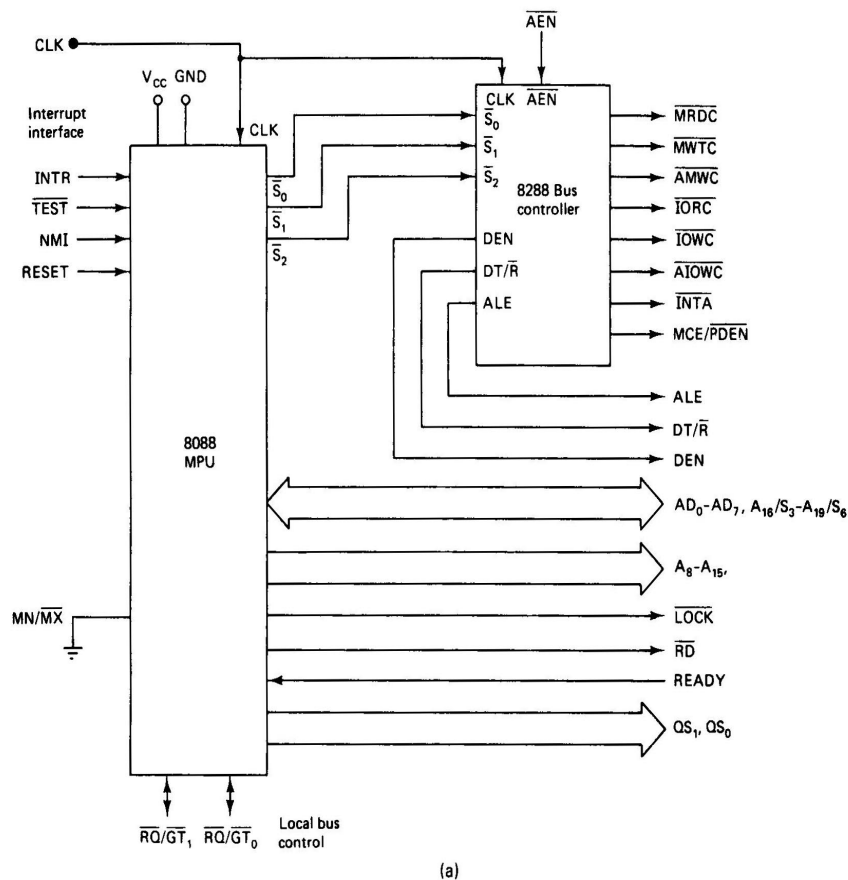
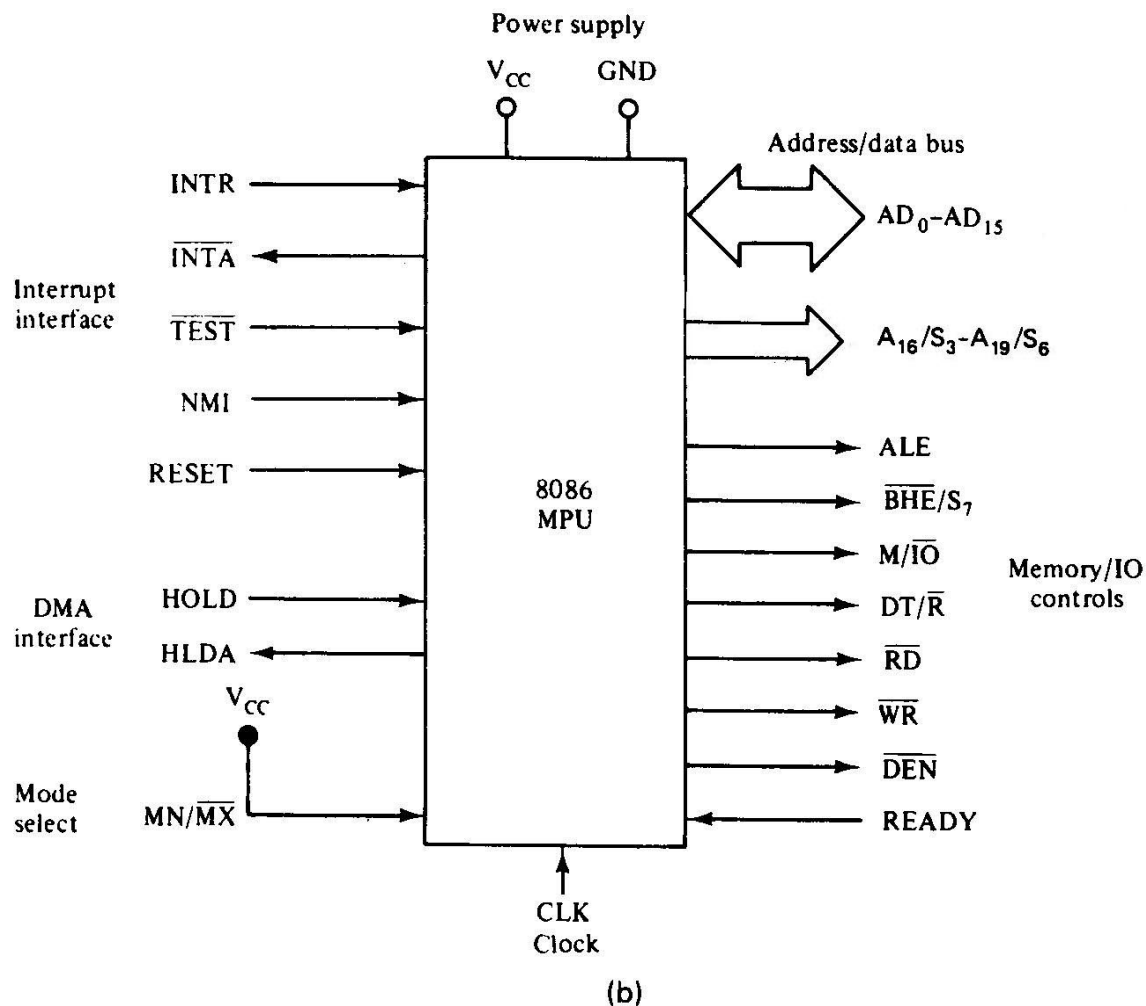

Figure 8-5 (a) 8088 maximum-mode block diagram. (b) 8086 maximum-mode block diagram.
Figure 8-3 (a) Block diagram of the minimum-mode 8088 MPU. (b) Block diagram of the minimum-mode 8086 MPU.
- We will **only** discuss **minimum-mode** operation of the 8086. In minimum mode, the **8086** itself **provides** all the **control signals** needed to implement the memory and I/O interfaces (see Fig. 8-3). In **maximum-mode**, a separate chip (the **8288 Bus Controller**) is used to help in sending control signals over the shared bus (see Fig. 8-5).